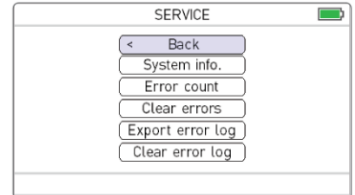

Figure 47. Service
- Service is shown (See Figure 47). Here you can access System information, Error count, Clear errors, Export error log and Clear error log.
- In SERVICE (See figure 47), select System info with .
- In SERVICE (See figure 47), select Error Count with .
1. In SERVICE (See figure 47), select Clear Errors with . The dialog Clear errors? Is shown (See figure 50)